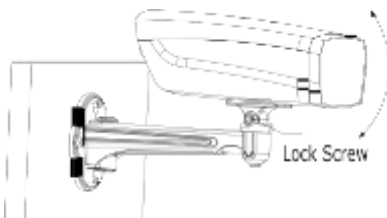

Figure 2-7 Tilting
9. Loosen the tilting lock screw. You can adjust the tilting angle of the camera (Figure 2-7).